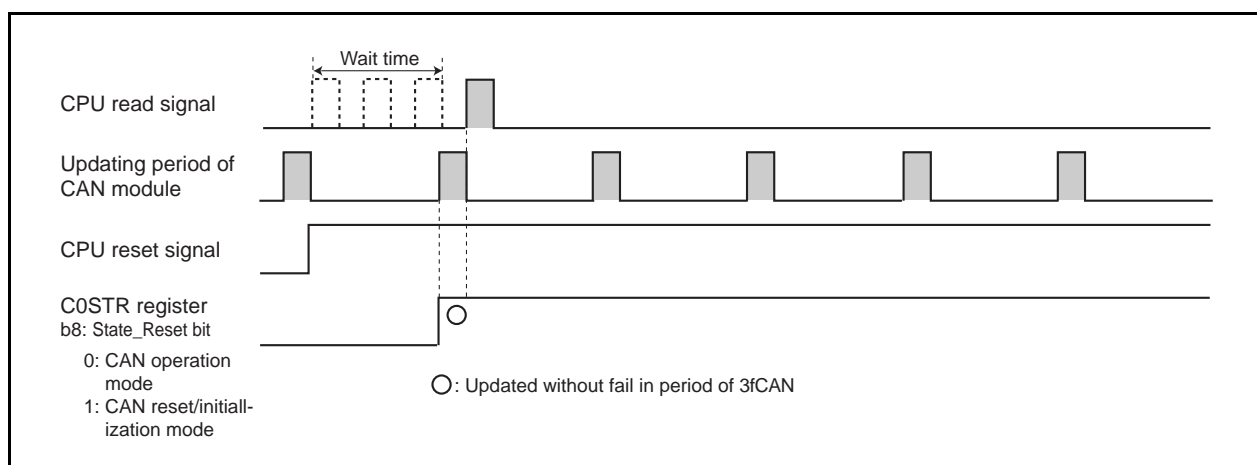

Figure 18.27 With a Wait Time of 3fCAN Before CPU Read
- There should be a wait time of 3fCAN or longer (see Table 18.4) before the CPU reads the C0STR register. (See Figure 18.27)